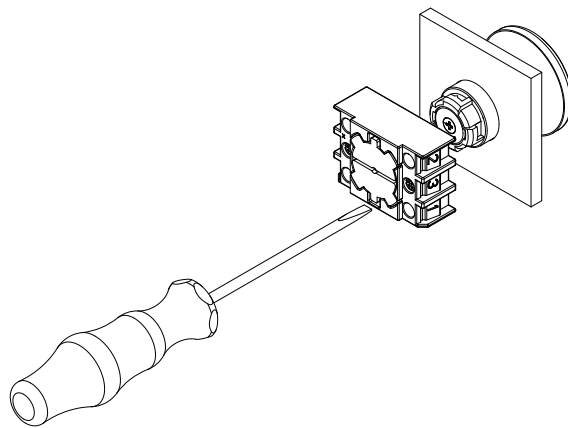

Fig. 1
1. Mount control elements and mounting flange by tightening both screws of mounting flange using size 2 cross-point screwdriver (see fig. 1)
1. Mount control elements and mounting flange by tightening both screws of mounting flange using size 2 cross-point screwdriver (see section 3.1, Fig. 1)